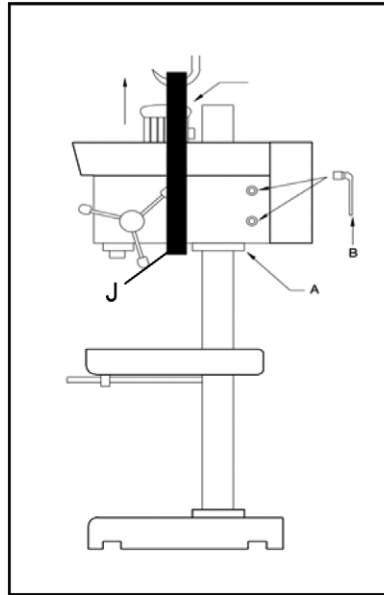

Figure 2 - Positioning the machine.
1. Check to see if the head is secure to the column with 10mm hex wrench (B, fig. 2).
2. Position a belt, with a load capacity about 300kgs at point J (J, fig. 2) to lift the machine.